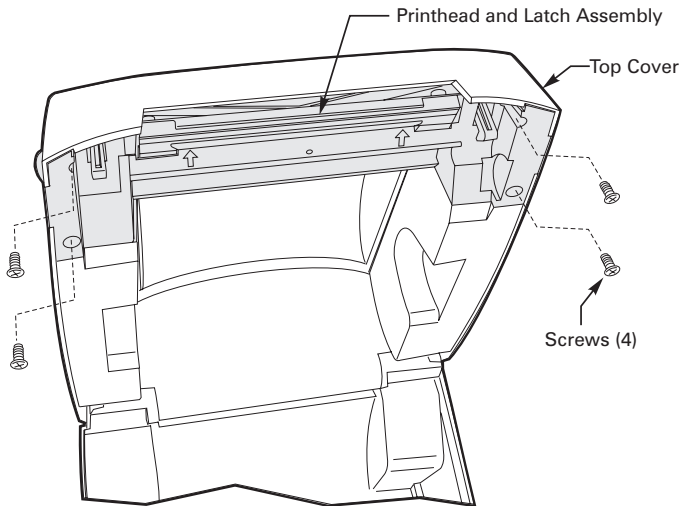

Figure 25
2. Refer to Figure 25. Remove the four screws that secure the printhead and latch assembly to the top cover.